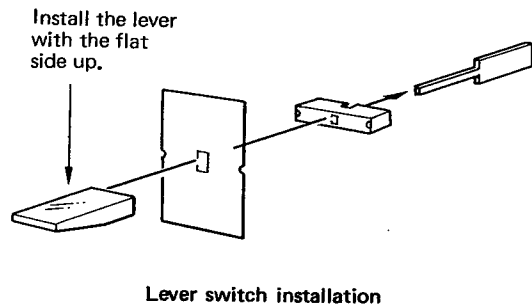

Fig. 1
- When installing switches and knobs be careful not to install them in the wrong place or upside-down. See Fig. 1.
- Remove the Function, Speakers and Tuning knobs using the hexagonal wrench provided (see Fig. 1).
- Remove (1), (2) and (3) screws (bind tapping screws 3x6s) from the top of the front panel as shown in Photo 3, and screws (1), (2) and (3) (small bind screws 3x6s) from the bottom as shown in Photo 4, then remove the front panel by pulling it forward.